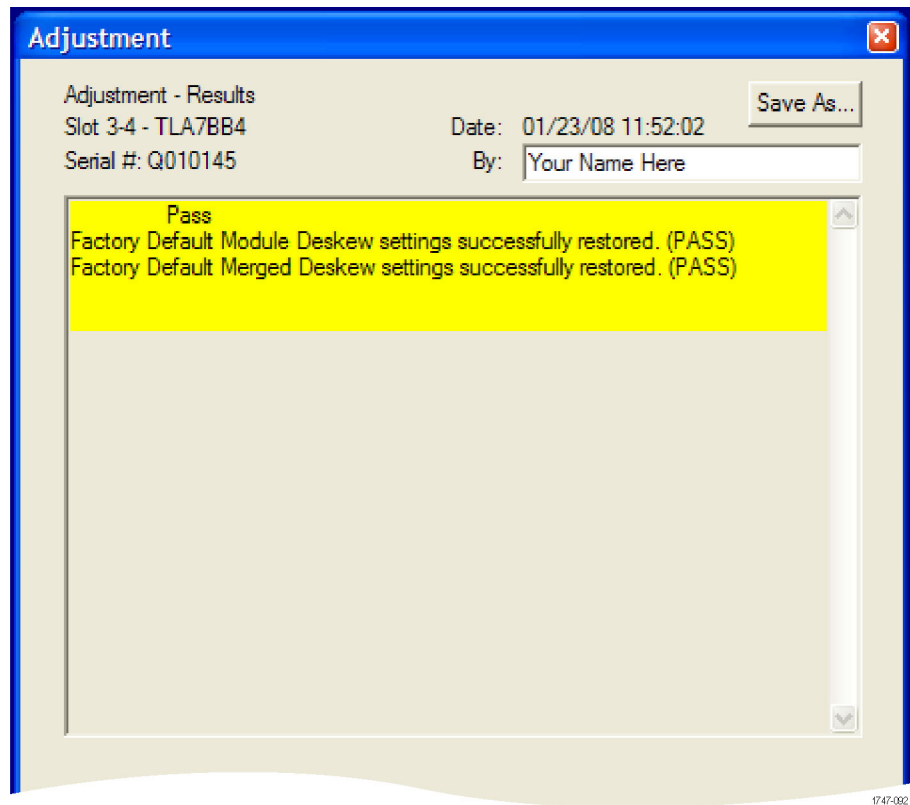

Figure 64: Restore Factory Default settings results
3. If you are sure that you want to run the procedure, click the Next button. The results of the procedure are displayed. (See Figure 64.)